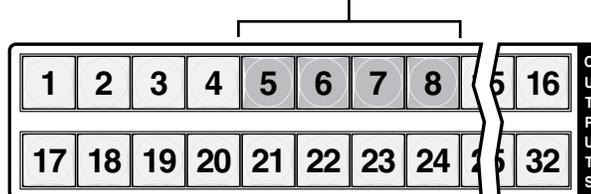

Figure 3-35 — Assign inputs and outputs
- Press and release the input 5 through 8 and output 5 through 8 buttons (figure 3-35).